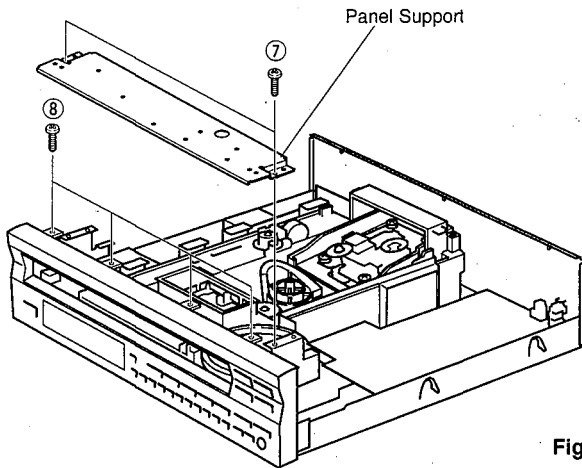

Fig. 3
- a. Remove 2 screws (⑦) and 4 screws (⑧) as shown in Fig. 3.
- b. Remove the Panel Support as shown in Fig. 3.